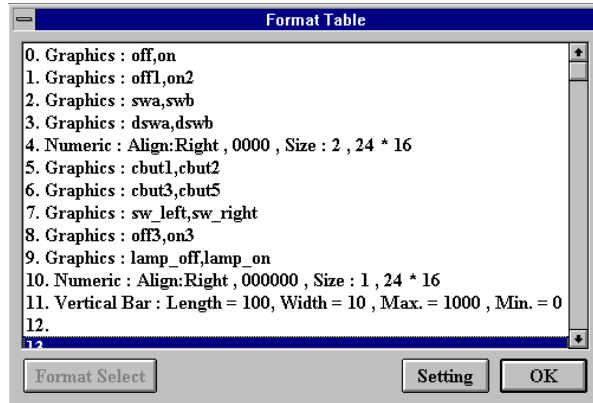

Fig. 4-2: Format Table
- 1) Choose the **Format** option in the **Edit** menu or click on the **Format** icon in the tool bar. The **Format Table** (Fig. 4-2) is displayed.